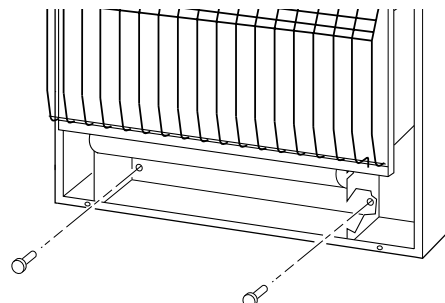

Figure 9 - Installing Bottom Mounting Screws
- Locate two bottom mounting holes. These holes are near bottom on back panel of heater (see Figure 9).